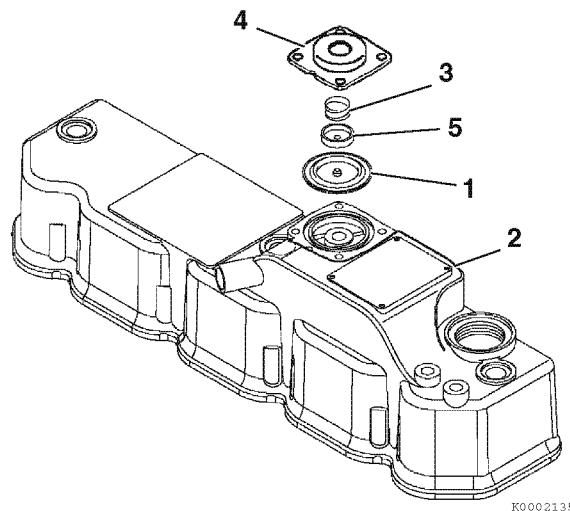

Figure 5-17
The non-turbo TNV engines use a crankcase breather system that has a spring-backed diaphragm (1, **Figure 5-17**) in the valve cover (2, **Figure 5-17**). When the crankcase pressure reaches a predetermined value, the diaphragm opens a passage that allows crankcase fumes to be routed to the intake manifold.
To inspect the diaphragm and spring (3, **Figure 5-17**):
1. Remove the bolts retaining the diaphragm cover (4, **Figure 5-17**).
2. Remove the diaphragm cover, spring, diaphragm plate (5, **Figure 5-17**) and diaphragm.